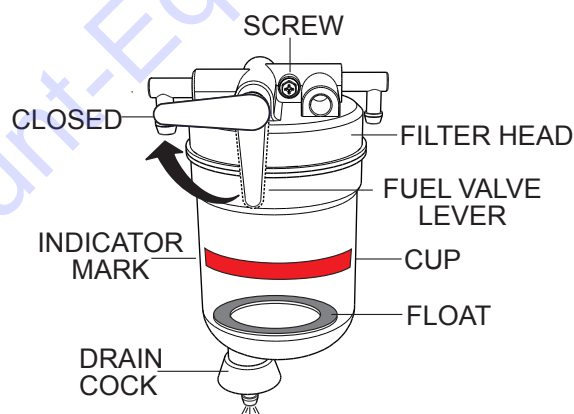

Figure 60. Fuel Filter/Water Separator
Inspect the fuel filter/water separator daily. If the fuel filter/water separator (Figure 60) has collected a significant amount of water and sediment at the bottom of the cup (indicator mark), it should be drained off.
As water is collected, the red float goes up. When the float has reached the indicator mark (Figure 60), immediately drain the fuel water separator.
1. Place the Open/Close fuel valve lever (Figure 60) in the **CLOSED** position.